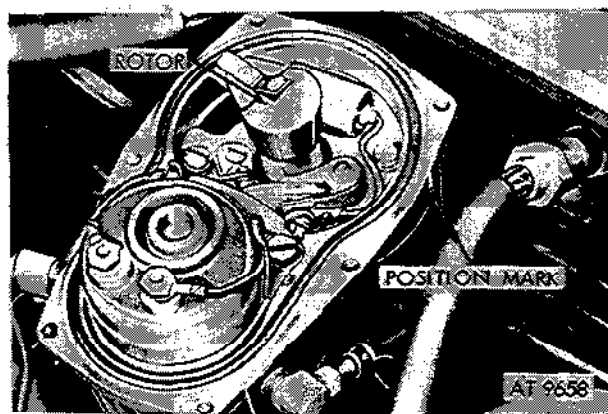

Figure 2-159. Mark position of No. 1 spark plug cable.
(1) Mark the position of the No. 1 spark plug cable on distributor base (fig. 2-159) refer to figure 2-145 for No. 1 spark plug cable location. Adjust breaker point assembly (step b-1 through 3 above) but do not install cap and cover assembly.
(2) Rotate crankshaft until rotor is positioned toward No. 1 spark plug cable mark and pointer on timing gear cover and notch on crankshaft pulley are aligned. Slowly rotate distributor counterclockwise until breaker points just start to open.